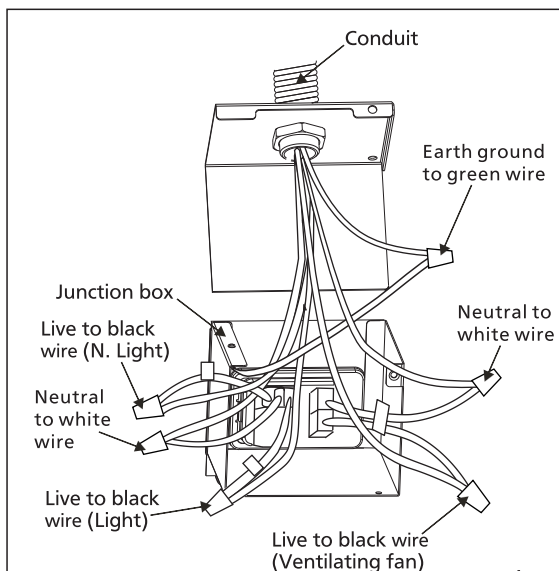

Fig.5
7. Refer to wiring diagram on page 5. Follow all the local electrical safety codes as well as the National Electrical Code (NEC). Using UL approved wire nuts, connect house power wires to ventilating fan wires. (Fig.5)